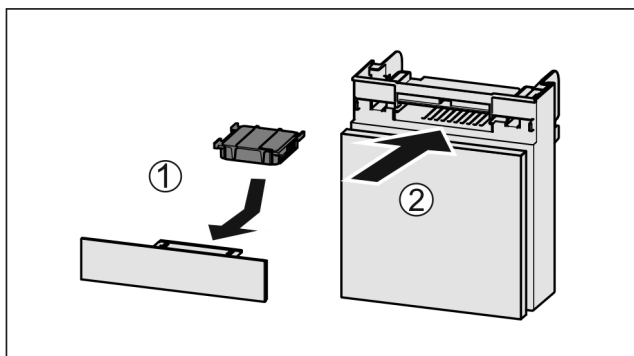

Fig. 160
- Insert the carbon filter as shown in the diagram Fig. 160 (1).
- Push the compartment in Fig. 160 (2).